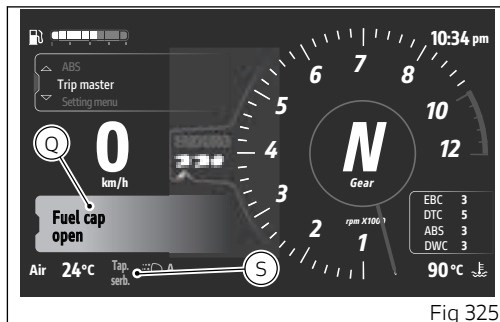
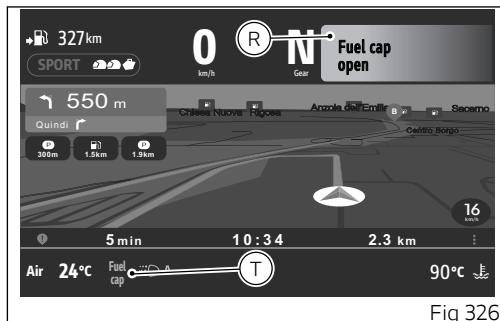

Fig 325
Fig 326
- when activated, it is displayed for the first 5 seconds in the large format (Q main screen, Fig 325) (R Ducati Connect screen Fig 326);
- then it is displayed in the small format (S main screen, Fig 325) (T Ducati Connect screen Fig 326).